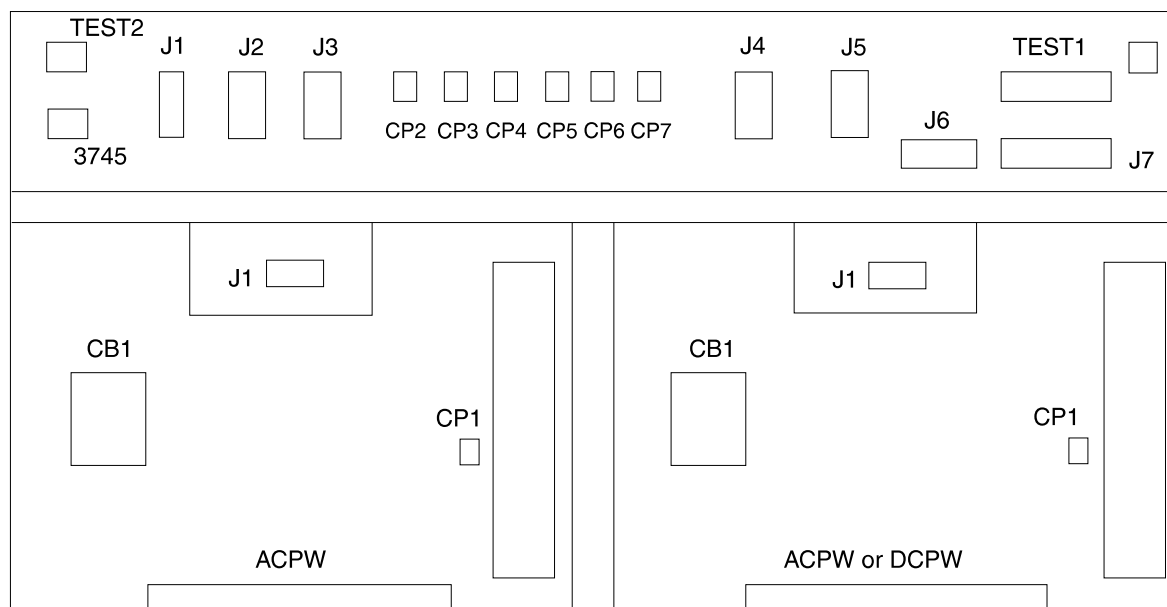

Figure 2-2. DCDP and Power Boxes
– Check the position of CB1 on the basic ACPW box. See Figure 2-2 on page 2-5.
– Check CP1 on the ACPW box. See Figure 2-2 on page 2-5.
– Check CP2 and CP3 on the DCDP. See Figure 2-2 on page 2-5.
- Check CP4, CP5, CP6, and CP7 on the DCDP. See Figure 2-2.
- Measure the 'dc sense 1' -48v at the Test 1 connector pin 5 as shown in Figure 2-2. Refer to YZ page 234 for test 1 pin assignment.